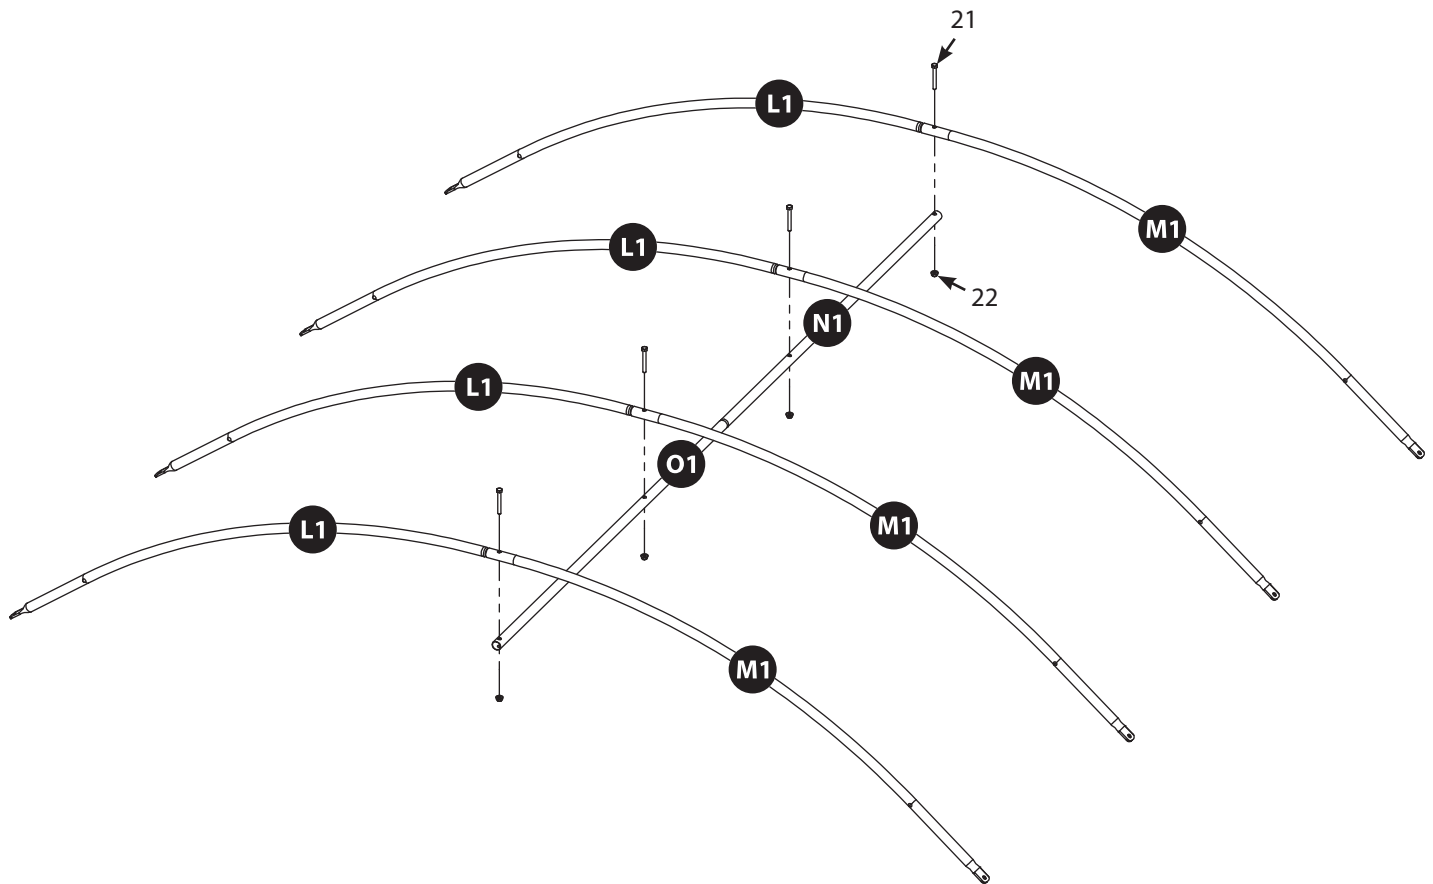

FIGURE 11
21. Slide the four L1 poles into the four M1 poles and set aside. **SEE FIGURE 11.**
23. Attached assembled L1 and M1 poles to one assembled N1 and O1 pole using the four M6 x 50mm bolts (21) and M6 nuts (22). **SEE FIGURE 11.**